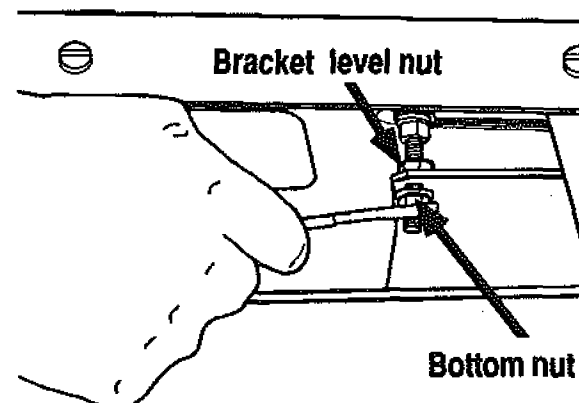

Fig. 38
47. To adjust the belt tension, use a 1/2" wrench to adjust the two hex nuts on either side of each motor bracket corner, as marked in Fig. 38.